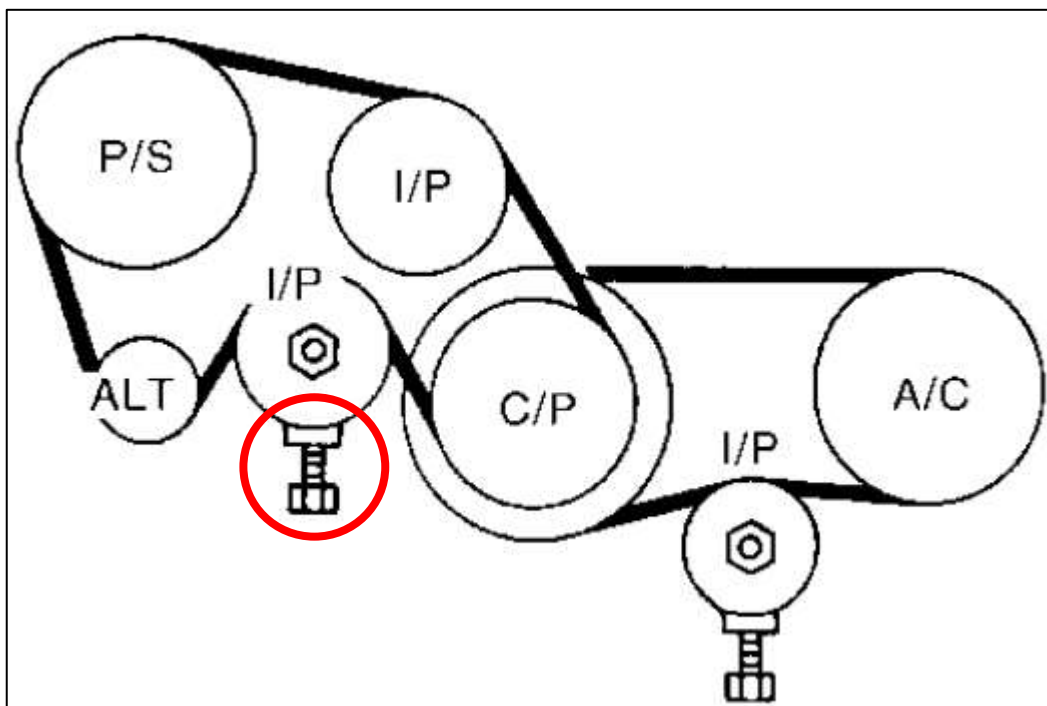

Figure 11
25. Loosen the Tension of the Pulley by adjusting the Screw beneath the Pulley. *Figure 11.*